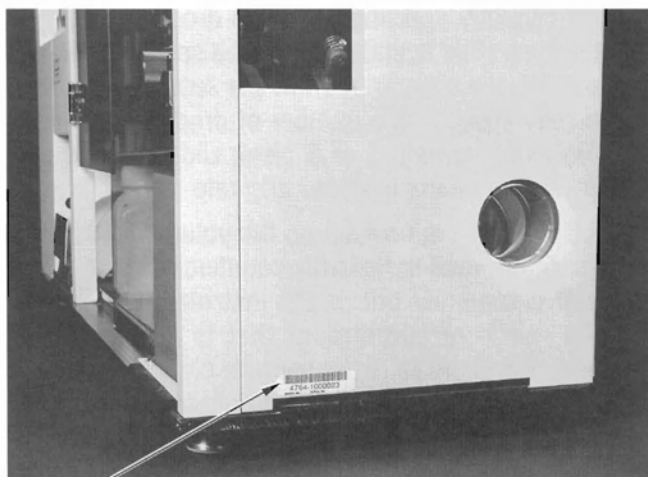

Figure 2-4
13. Locate the serial number/bar code label found on the right side of the instrument, in the lower front corner (Figure 2-4); a duplicate label is also found on the rear of the instrument. Write the installation date and instrument serial number on the Warranty Registration Card found in the front of this manual. Also write the installation date and serial number in the spaces provided on the Manufacturer's Warranty Page (found at the end of this manual) and in the "Preservice Checklist" in Section 9. Completely fill out the Warranty Registration Card and mail.